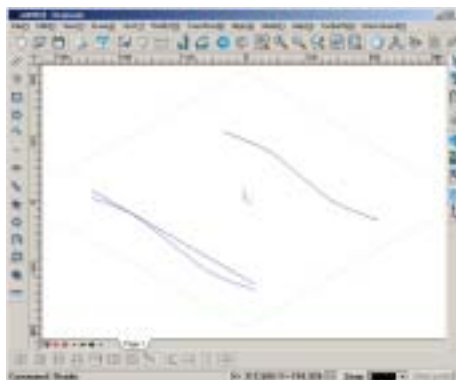

Fig. 5
4. Click on **OK** to create the tool path. View the tool path in 3d view, then we get the clear effect. (Fig. 5)